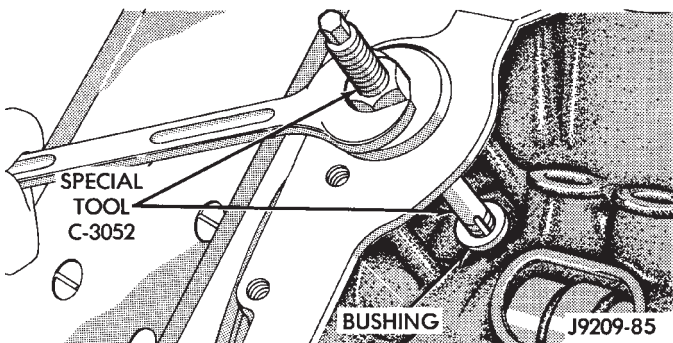

Fig. 20 Distributor Driveshaft Bushing Removal
- (1) Remove distributor. Refer to Group 8D, Ignition Systems for the proper procedure.
- (2) Remove the intake manifold. Refer to Group 11, Exhaust System and Intake Manifold.
- (3) Insert Distributor Drive Shaft Bushing Puller Tool C-3052 into old bushing and thread down until a tight fit is obtained (Fig. 20).
- (4) Hold puller screw and tighten puller nut until bushing is removed.